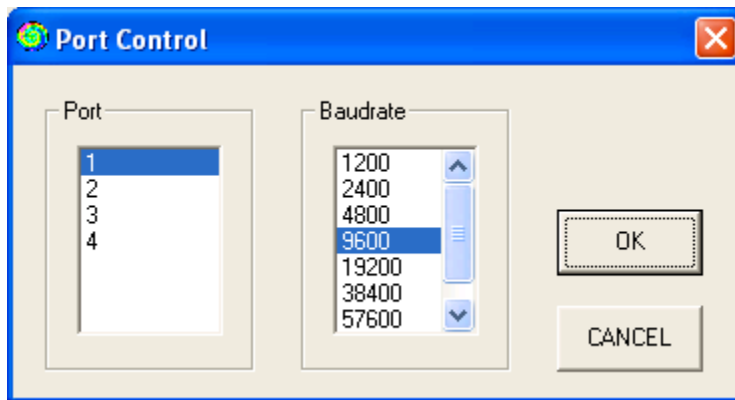

Figure 6: IntegraSoft Port Control window
2. Click the "IntegraSoft" icon on the computer desktop to open the Port Control window, shown in Figure 6. The Port Control window may appear under the main application window but can be brought to the foreground by clicking "Port Control" in the task bar.